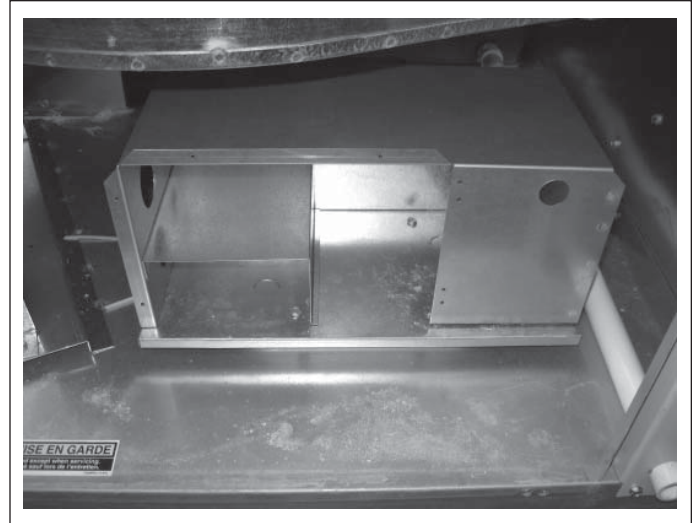

Figure 2.
5. Install bottom power entry box on to base-plate and attach with four – 1/2” long #10 screws (provided) using a 5/16” nutdriver. (See Figure 2)